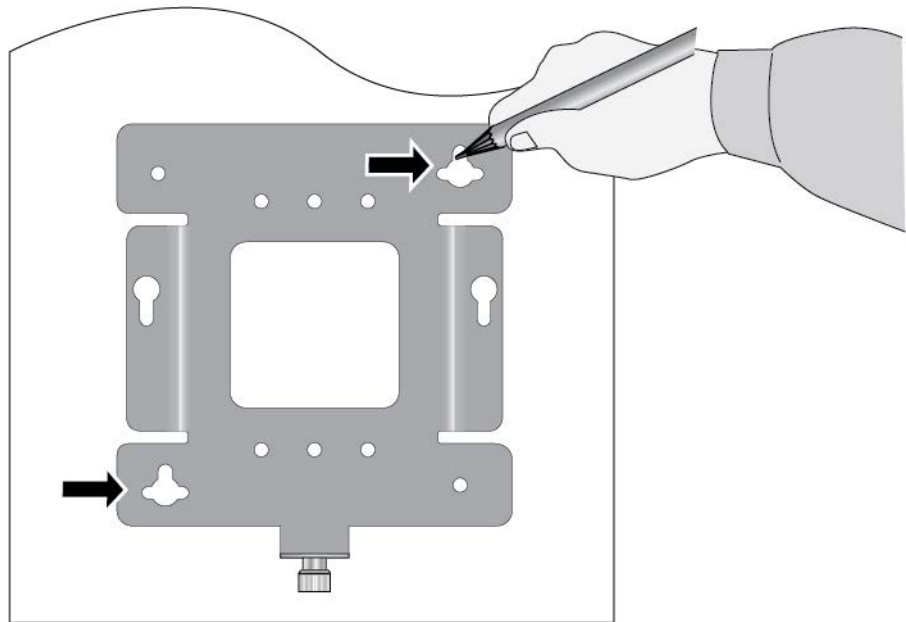

Figure 16. Marking the Holes for the Key-Hole Slots
3. With a pencil, mark the wall or ceiling with the two key-hole slots of the bracket. Refer to Figure 16.